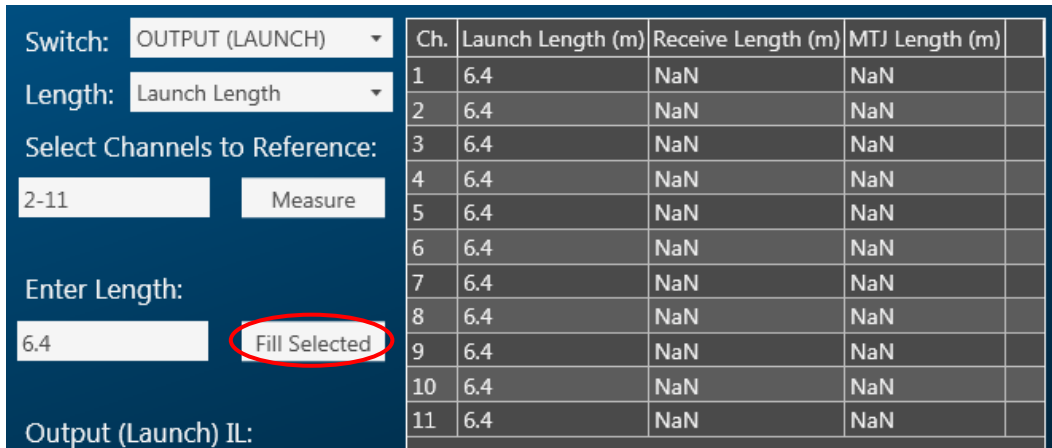

Figure 21: Fill launch length of the output switch
- Repeat the previous point for each channel or enter manually if the lengths are known (Figure 21).